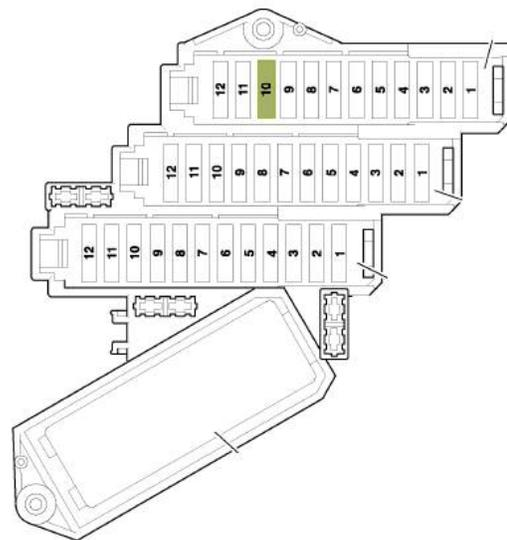

Figure 2. SB10 fuse location in Q7 vehicles.
- **For Q7:** Remove green 30A fuse SB10 from fuse box instrument panel left (Figure 2). Reinstall the fuse after 30 seconds.